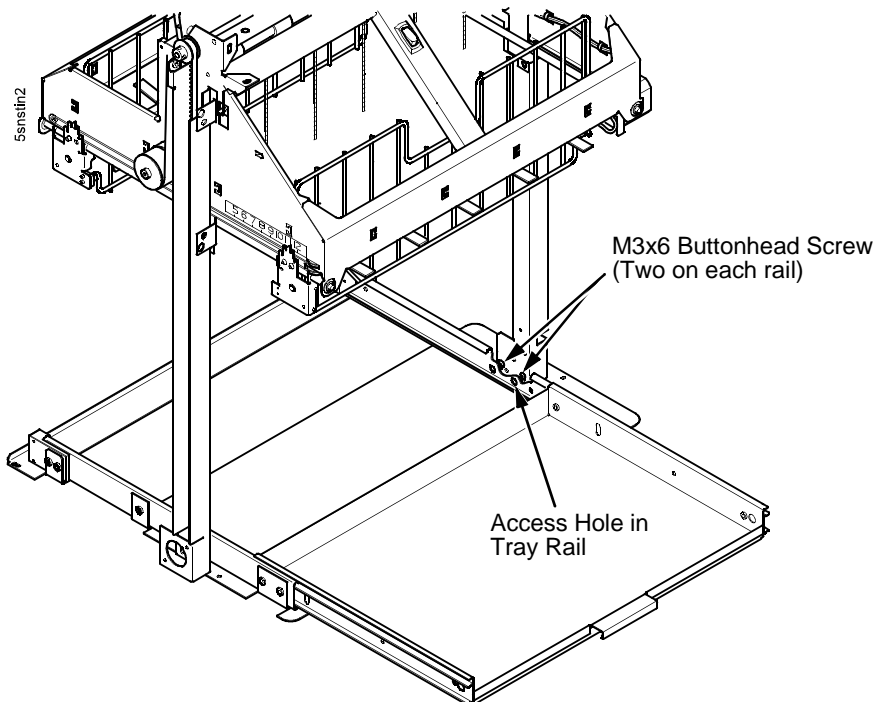

Figure 76. The Lower Screws in the Vertical Rails
14. Pull the paper tray out until the holes in the rails permit access to the M3 buttonhead screws. (Figure 76.)
15. Loosen one turn—do not remove—the M3 screws securing the vertical rails to the stacker base. Each rail is secured by two screws. (Figure 76.)
34. Pull the paper tray out until the holes in the rails permit access to the M3x6 screws. Tighten the M3 screws securing the vertical rails to the stacker base. Each rail is secured by two screws. (Figure 76.)